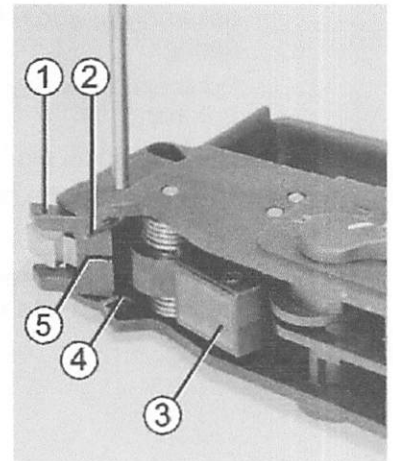

Fig. 53 Replacement of catch
- ⇒ Rock hammer backwards (Fig. 53/3) all the way and swivel catch (Fig. 53/1) forwards as far as it will go.
- ⇒ Insert catch, with the engagement edge (Fig. 53/5) towards the rear, in front of the hammer.